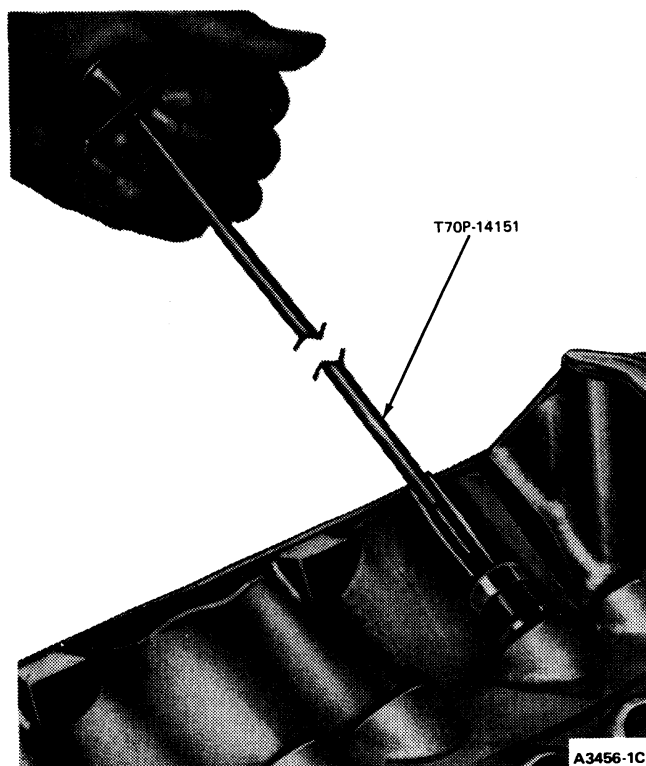

FIG. 19 Removing Hydraulic Valve Tappet
3. Using Tool T70P-14151 or equivalent remove the valve tappet(s) and place them in a rack so that they can be installed in their original bores (Fig. 19). If removing tappet through adjacent lifter hole, use a small light to aid in transferring tappet into position for lifting out with T70P-14151 Tool or equivalent.